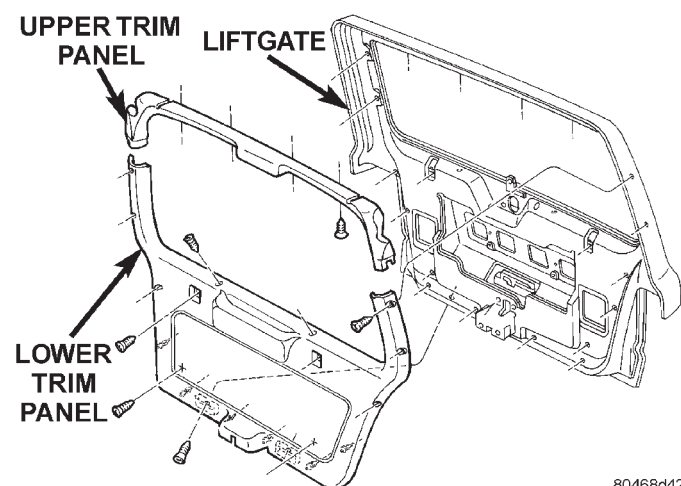

Fig. 8 Liftgate Trim Panel Remove/Install
(1) Disconnect and isolate the battery negative cable.
(2) Remove the screws securing the liftgate lower trim panel to the liftgate (Fig. 8).